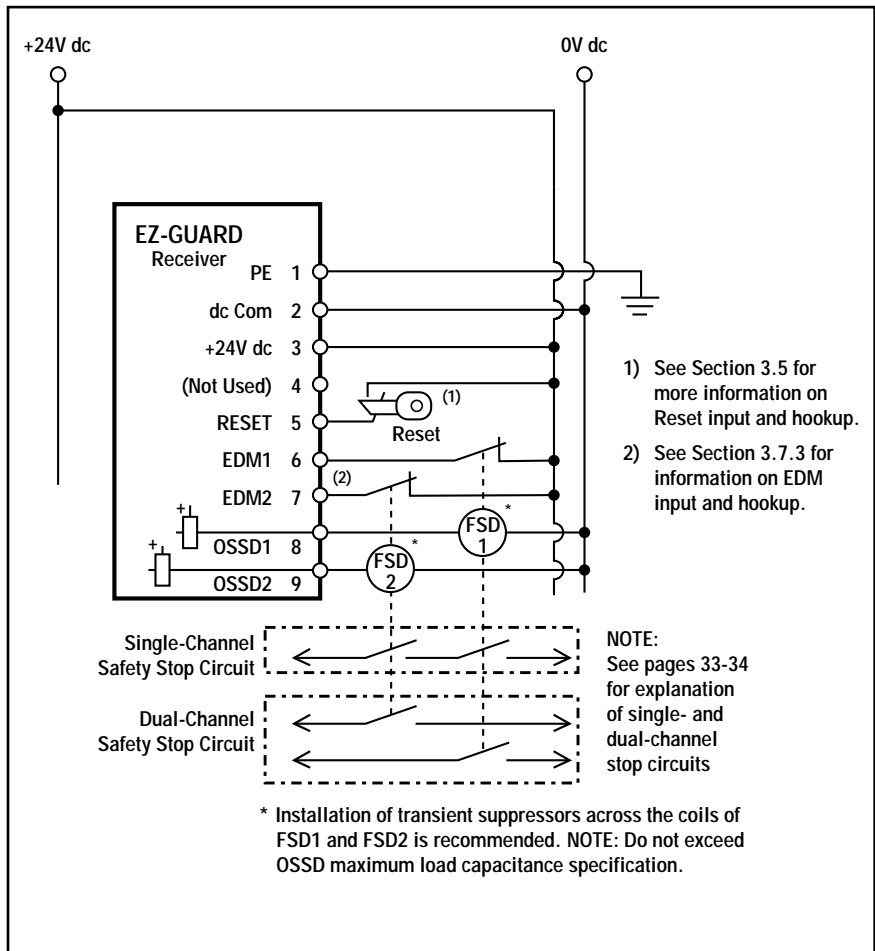

Figure 3-16. EZ-GUARD receiver generic hookup – FSD (2-channel EDM, key reset)
Final Switching Devices (FSDs) typically accomplish this when the OSSDs go to an OFF state. See Figure 3-16.
A common method of satisfying these requirements is the use of 2-channel control with monitoring, where a normally closed, forced-guided contact of each MPCE is wired as described in the section at left and as shown in Figures 3-16, 3-17 and 3-18.
Each of the two Machine Primary Control Elements (MPCE1 and MPCE2) must be capable of immediately stopping the dangerous machine motion, irrespective of the state of the other. These two channels of machine control need not be identical, but the stop time performance of the machine (T_s , used to calculate the separation distance, see Section 3.3.1) must take into account the slower of the two channels. Some machines offer only one Primary Control Element. For such machines, it is necessary to duplicate the circuit of the single MPCE to add a second. Refer to Figures 3-16 and 3-17 or consult the machine manufacturer for additional information.
External Device Monitoring: It is strongly recommended that one normally closed, forced-guided monitoring contact of each MPCE be connected to EDM inputs (see Figures 3-16 and 3-17). If this is done, proper operation of the MPCEs will be verified. MPCE monitoring contacts is one method of maintaining control reliability.
- **Two-channel monitoring** is a separate connection of closed monitor contacts that are forced-guided (captive contact) from each device controlled by the EZ-GUARD Grid. The monitoring contacts should always change state (both open or both closed) within 200 milliseconds of the corresponding OSSD state change (turning on or off) or a lockout will occur (see Diagnostics, Section 5.1). Refer to Figures 3-16 or 3-17 for 2-channel EDM hookup. Connect the monitor contacts as shown between +24V dc and EDM1 (terminal 6) and between +24V dc and EDM2 (terminal 7). Set the configuration DIP switches to 2, per Section 4.1.